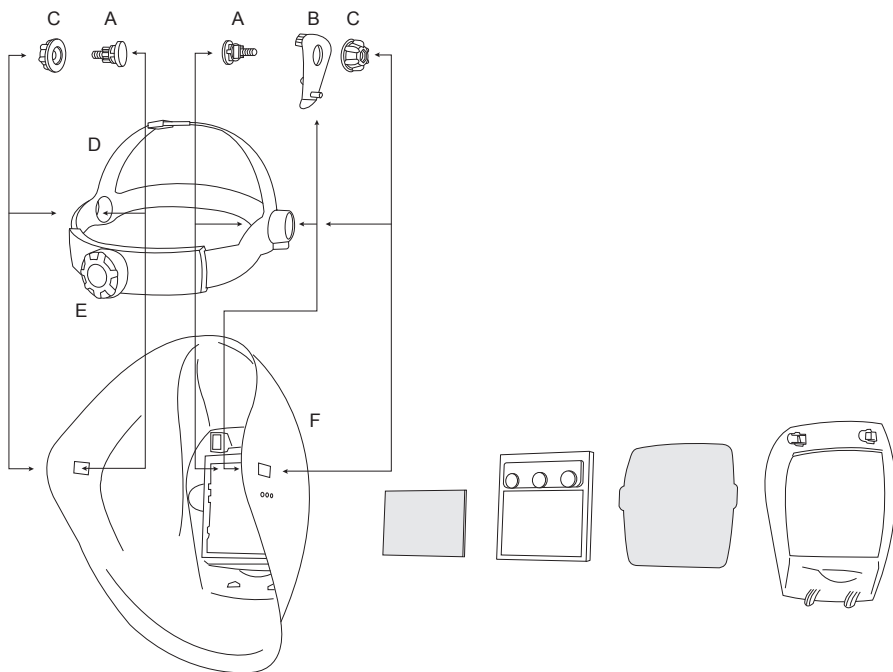

Figure 1
1. Insert screws (A) through the openings in the headgear (D).
2. Insert the headgear (D) into the helmet shell (F) as shown in figure 1 and push the screws (A) through the rectangular openings in the helmet shell.
3. Put the tilt adjustment (B) on the right side between the screw (A) and helmet shell (F). Make sure that a small pin is fixed in one of the three holes in the helmet shell. Choose the right hole for your maximum comfort.
4. Tighten the nuts (C) on the screws (A). Before adequately tightening them, place the headgear at the most comfortable distance from the filter opening by adjusting the position of headgear within the two rectangular holes in the helmet shell.
5. The headgear size (D) can be adjusted by turning the rear wheel (E) in order to fit any head size. Press the wheel and hold it while turning, release the wheel when reaching the position of maximum comfort, so that it will lock in the required position.